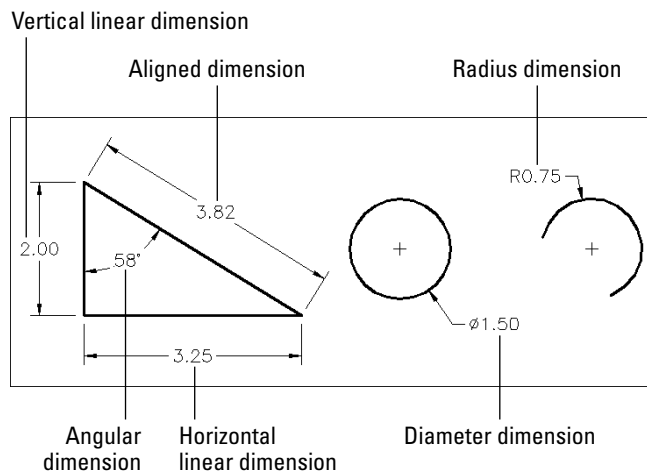

Figure 10-3:
AutoCAD provides several types of dimensions and commands for drawing them. Figure 10-3 shows the most common types, and the following list describes them:
- ✓ **Radial dimensions:** A *radius* dimension calls out the radius of a circle or arc, and a *diameter* dimension calls out the diameter of a circle or arc. You can position the dimension text inside or outside the curve, as shown in Figure 10-3. If you position the text outside the curve, AutoCAD by default draws a little cross at the center of the circle or arc.
AutoCAD 2006's new DIMARC command dimensions arc lengths (see Figure 10-10 later in this chapter for an example). Make sure your industry or office standards agree with this type of dimensioning — the standard way of dimensioning arcs is with a radius dimension like the one in Figure 10-3.